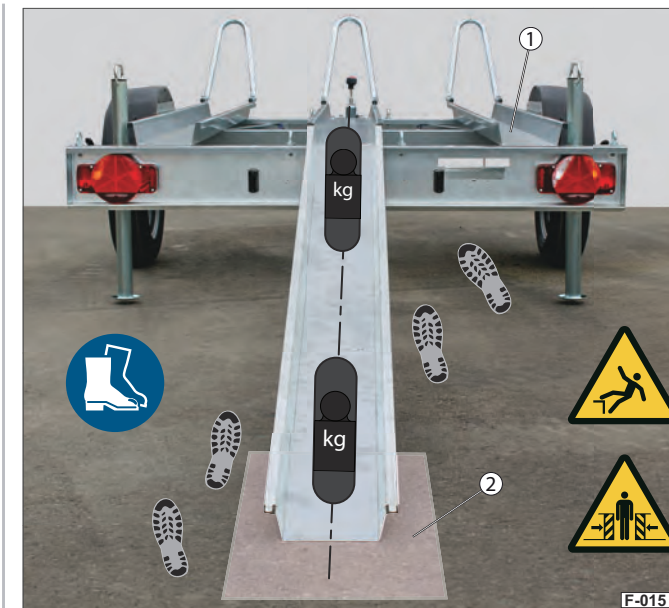

Fig. 15 Loading ramps positioned / secured
- ▶ Before using the loading ramp, make sure that it cannot sink into soft ground, e.g. (on sandy ground, a field, gravel, etc.) - if necessary lay a solid base (Fig. 15 /2) under the loading ramp.
- ▶ Take special care when climbing onto the trailer - use the side stand rails (Fig. 15 /1) to stand on.